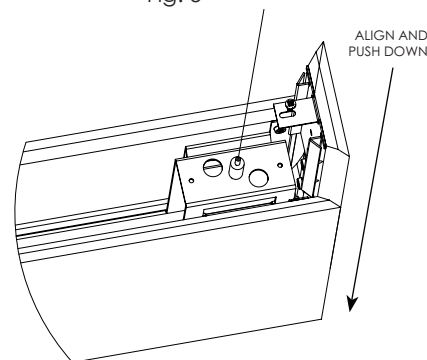

Fig. 7
11. Identify endcap trim panel and install by pushing down starting above side acoustic panels. Ensure brackets on both side trim panels interface with bracket on endcap acoustic trim panel (see figure 7.)
17. Identify endcap trim panel and install by pushing down starting above side acoustic panels. Ensure brackets on both side panels interface with bracket on endcap acoustic panel (see figure 7.)